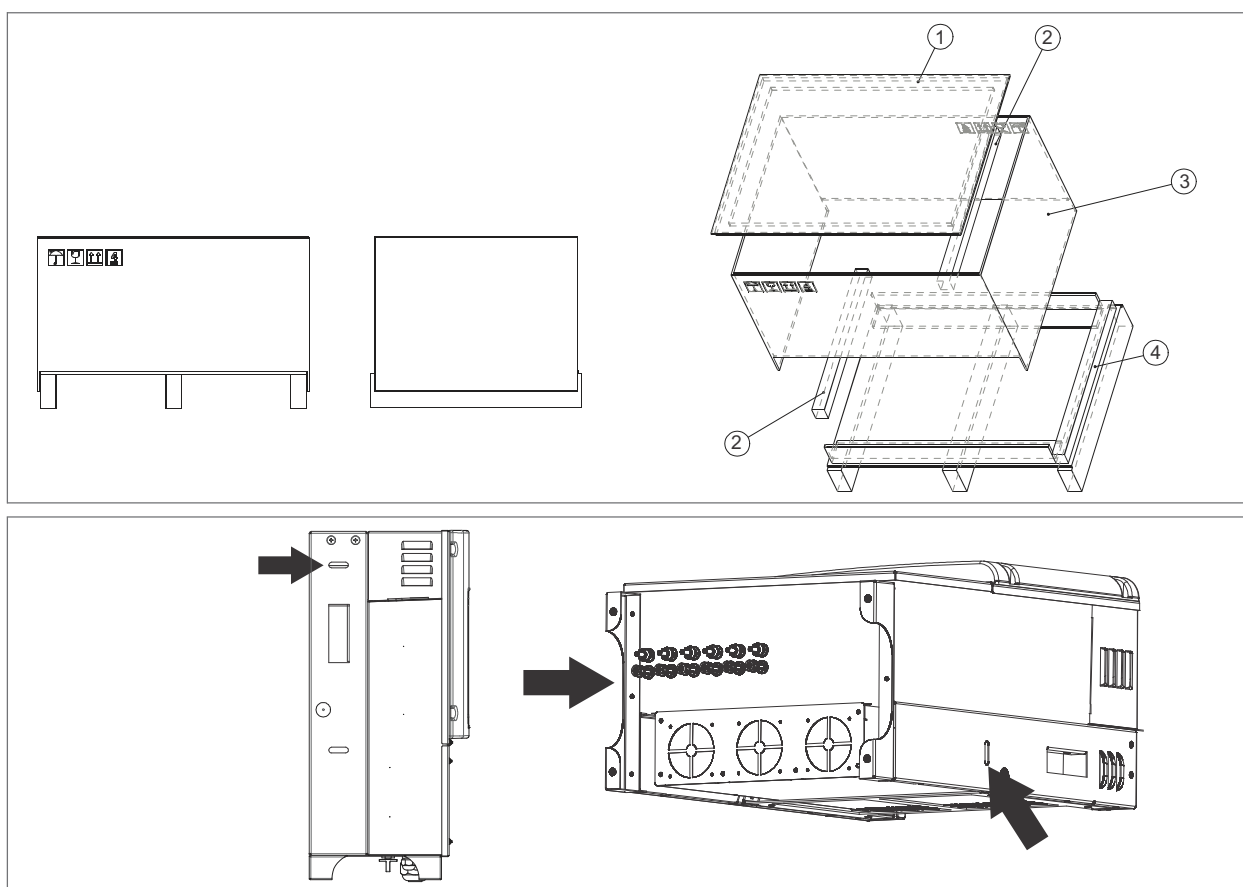
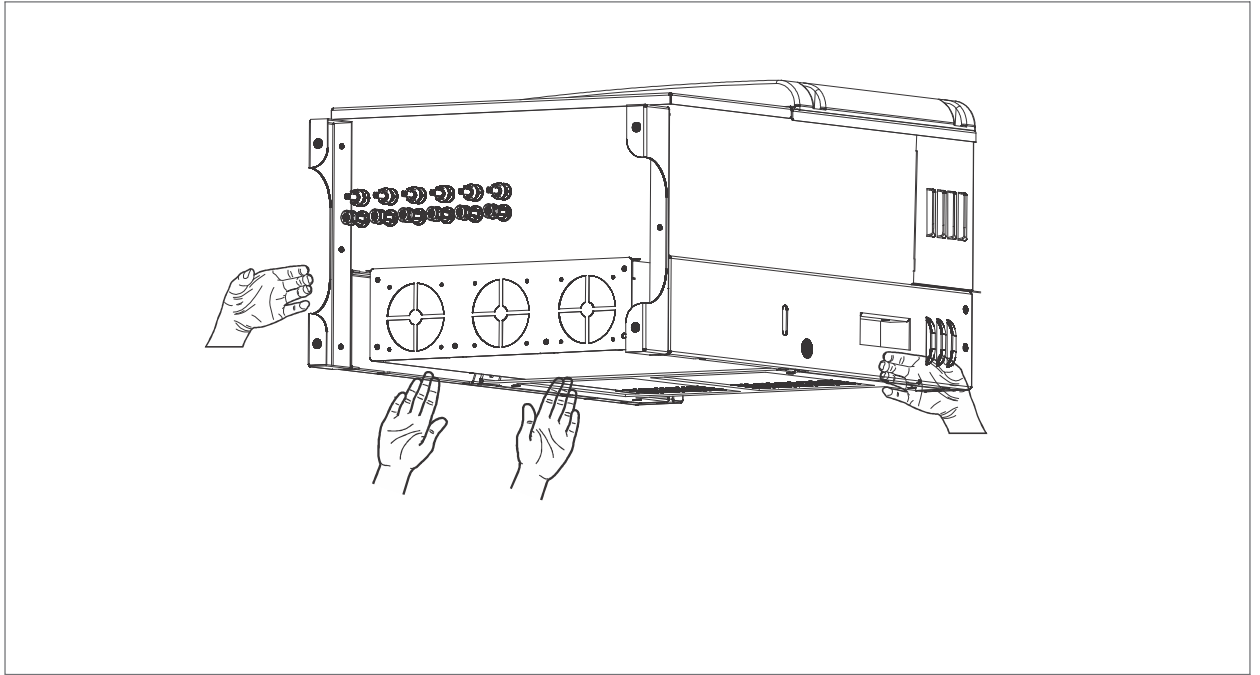

Figure 2 : wooden crate and slots for extraction of the inverter from crate
Figure 5 : Manual handling
- using chain hoists or crane, attach two tie rods in the appropriate slots on the sides of the inverter, see Figure 2 (slots dimensions: 11,5x39mm. **Attention:** use these slots only to remove the inverter from the crate. See chapter 3.4 for information on how to handle the equipment: 3.4:
- manually by using the appropriate handles, see Figure 5. In this case, also remove the side panels of the crate(3). See figure 2.